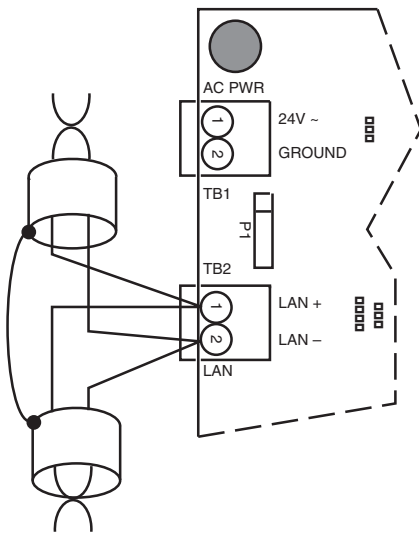

Figure 5. Sub-LAN Connections
1. Connect the + lead of the twisted pair sub-LAN cable to terminal TB2 – 1 (LAN+, see Figure 5).